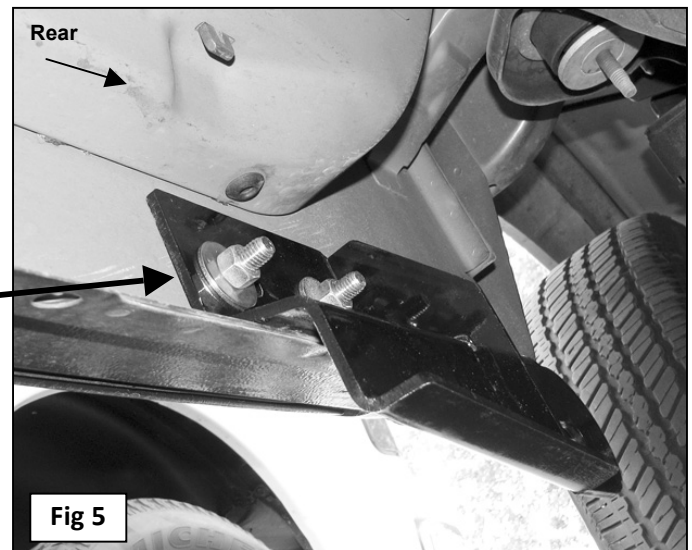

Fig 5
5. Select the passenger side Rear Mounting Bracket and attach it to the Double Bolt Plate with (2) 12mm Flat Washers, (2) 12mm Lock Washers and (2) 12mm Hex Nuts, **(Figure 5)**. Snug all hardware but do not tighten at this time.